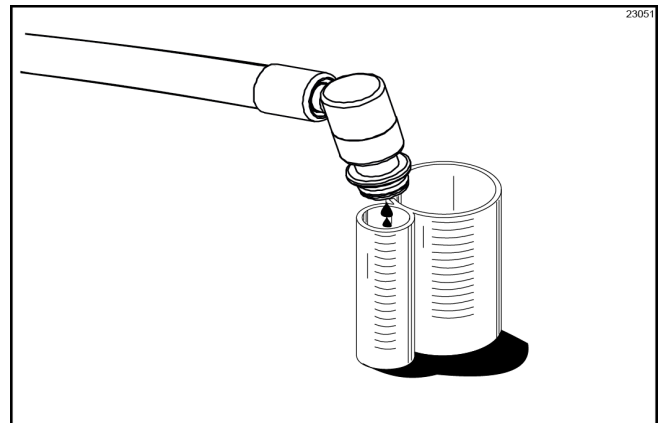

Figure-47
5. To calibrate the syrup dispensing rate, hold the small portion of the calibration cup under the valve for the flavor to be calibrated. Press the corresponding Flavor Selection symbol  to activate the syrup pump and start the flow of syrup. When the syrup level measures 1 oz., press the same Flavor Selection symbol  to stop the syrup flow. Verify the level of syrup in the cup. If the measurement is not within the specification, repeat step 4 for the same flavor until the correct syrup calibration is achieved. (See Figure-47.)